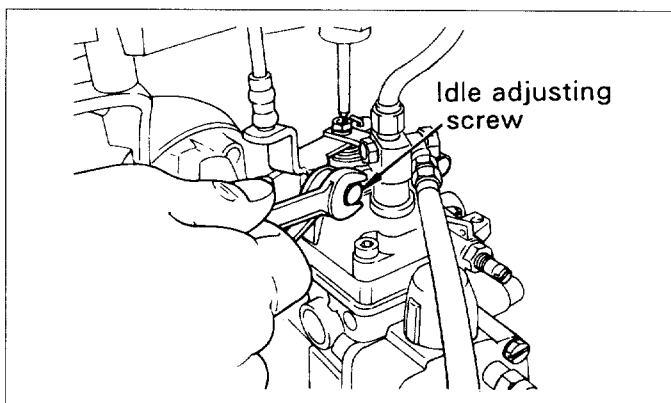

Fig.15-27 Setting idle adjusting screw
(1) With the adjusting lever free to be held against the idle adjustment screw, by the adjusting lever return spring, adjust the idle fuel delivery to the specified value by the idle adjustment screw. (See Fig.15-27)
(2) Check the angle of the adjusting lever to ensure that it is within the specified value on the test specification.